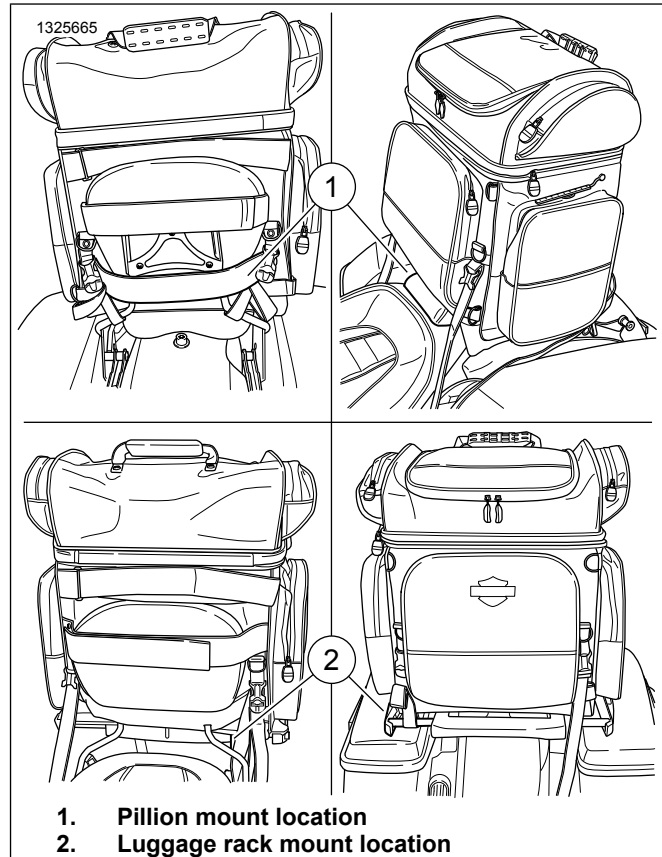

Figure 7. Touring
1. Figure 7 Position bag on passenger pillion seat or luggage rack.